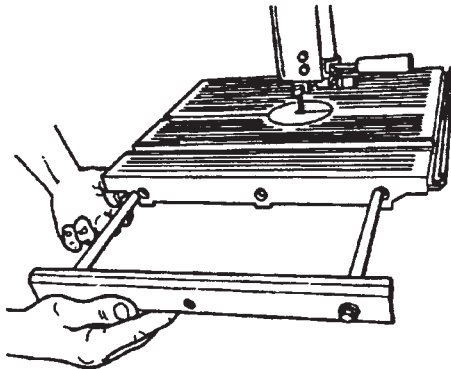

Fig. 2
- Insert both rods (4) into the table's holes, as shown in Fig. 2, and push the extension assembly against the Bandsaw table. Make sure the extension bar faces up so the top of the bar is flush with the table.